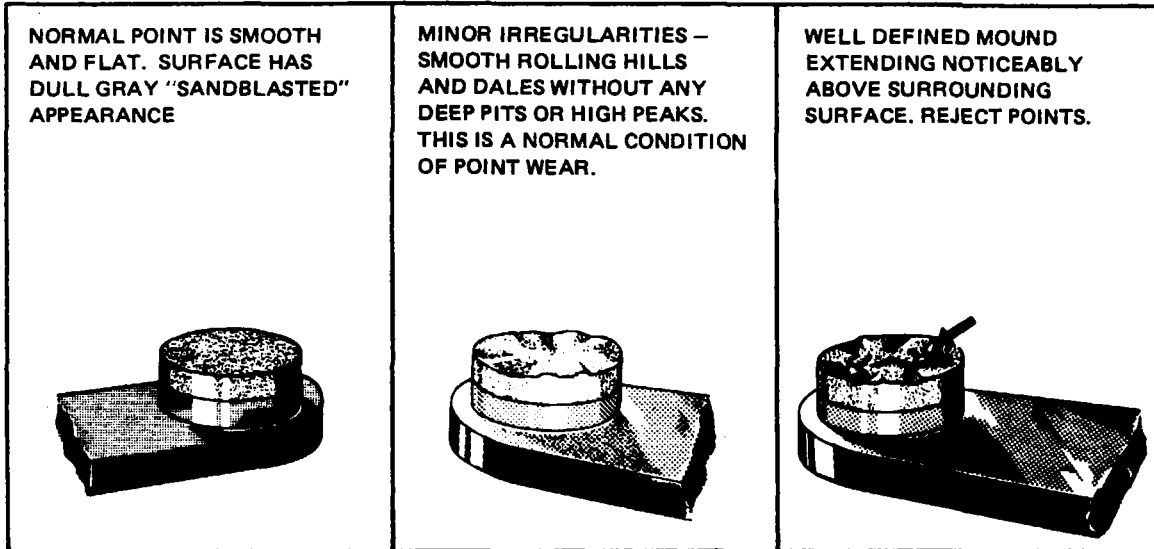

Figure 8A-9. Contact Points
e. Remove the breaker cover and harness securing screws and nuts, and separate cover from magneto housing. Check contact assemblies to see that cam follower is securely riveted to its spring. Examine the contact points for excessive wear or burning. Figure 8A-9 shows how the average contact point will look when surfaces are separated for inspection. Desired contact surfaces have a dull gray, sand-blasted (almost rough) or frosted appearance over the area where electrical contact is made. This means that points are worn in and mated to each other, thereby providing the best possible electrical contact and highest efficiency of performance.